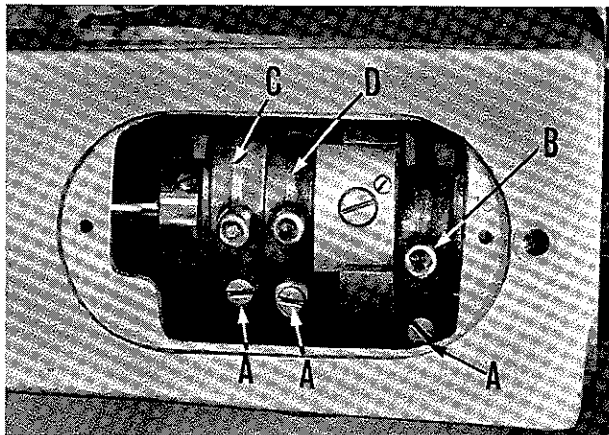

Fig. 3
Access to the connecting rod adjusting screws is through the opening in the top of the arm (Fig. 3). Remove arm cover plate, and tighten screw (A) in plunger drive connecting rod (B) until machine begins to bind while handwheel is being turned in operating direction. Then, loosen screw until machine again turns freely. Repeat same operation with feed elevating connecting rod (C) and feed driving connecting rod (D). Replace arm cover.